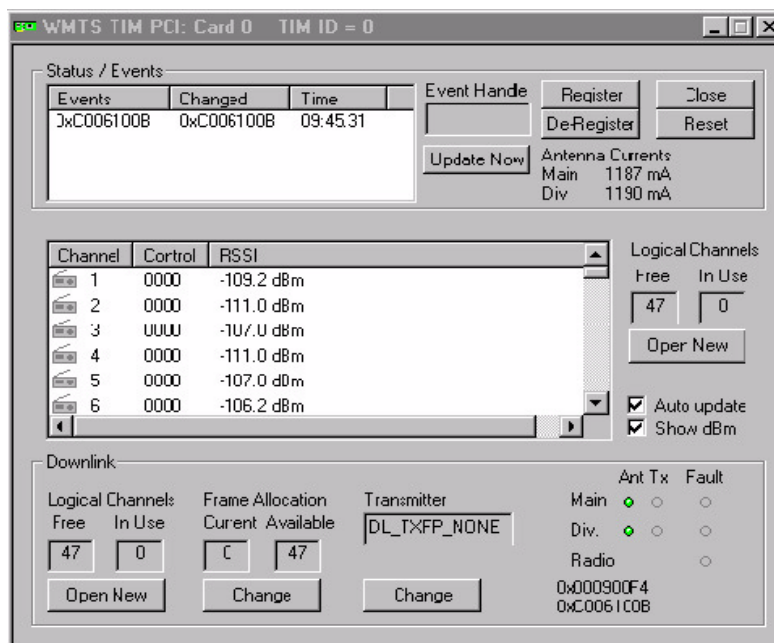

FIGURE 4-2
9. Select **Open**. The PCI Device Window will open (shown in FIGURE 4-2).